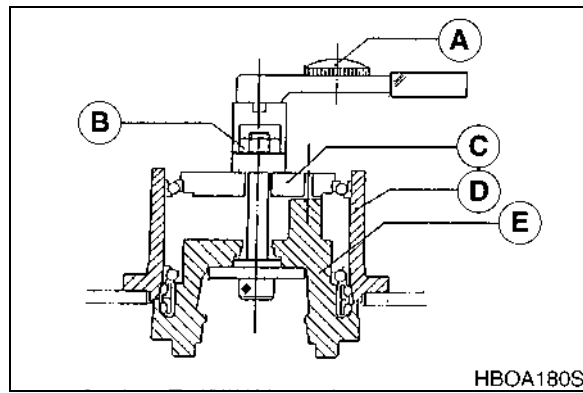

Figure 97
1. Install main bearing pre-load adjustment jig (C, Figure 97) at spindle (D) (2).
6. Remove main bearing pre-load adjustment jig (C, Figure 97) from spindle (2).